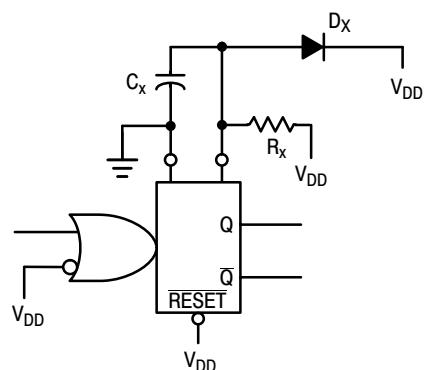

Figure 9. Use of a Diode to Limit Power Down Current Surge
- 6. If $C_X > 15 \mu\text{F}$, Use Discharge Protection Diode D_X , per Figure 9.